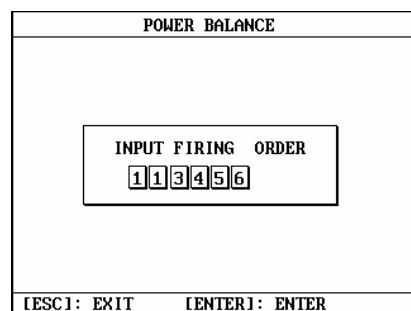
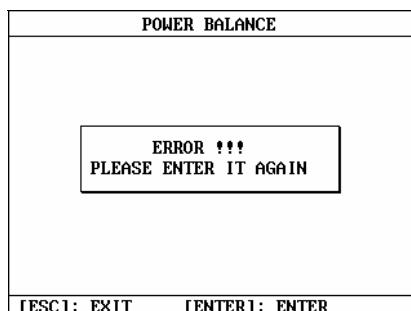

Fig.7-09
Fig.7-10
*Make sure to input the firing order correctly. If a wrong firing order is inputted, the screen will display error information. For example, if mistake is made as shown in Fig.7-09 (two "1's are inputted), the screen will prompt error information as shown in Fig.7-10 after pressing [ENTER] key.*
will display error information. For example, if mistake is made as that shown in Fig.7-09 (two "1"s are inputted), the screen will prompt the error as shown in Fig.7-10 after pressing [ENTER] key.